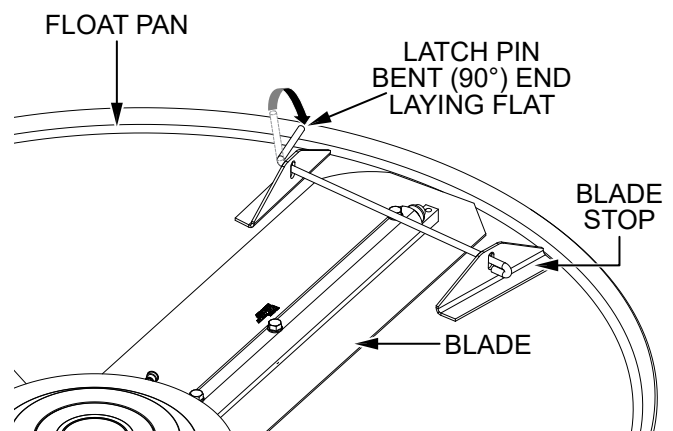

Figure 28. Latch Pin Placement
4. After it has been routed through the **blade stop** holes, rotate the **latch pin** so the end that is bent approximately 90 degrees lays flat on the surface of the **float pan**. See Figure 28.